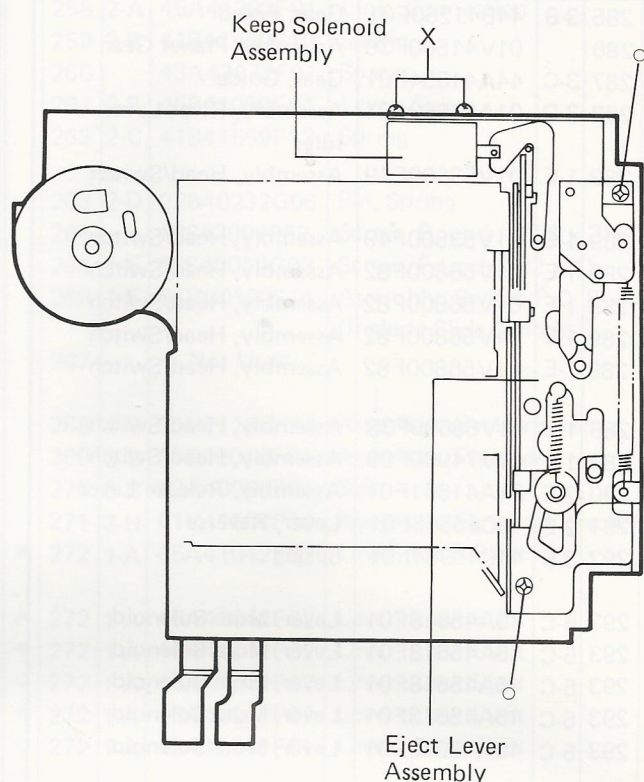

Figure 1
- (1) Remove two screws marked "○" as shown in Figure 1.
- (2) The eject lever assembly can be removed.
- (1) Remove two screws marked "X" as shown in Figure 1 and the keep solenoid can be removed. (Plunger can not be removed.)